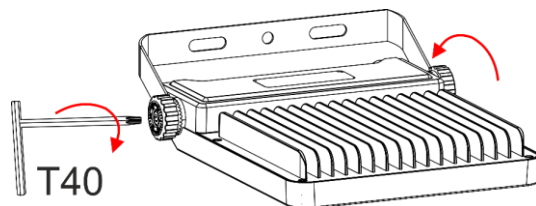

Fig. 11
- 07) Insert the 2 **adjustment screws (06)** to connect the device to the **mounting bracket (03)**.
08) Turn the 2 **adjustment screws (06)** clockwise to tighten them (Fig. 11).